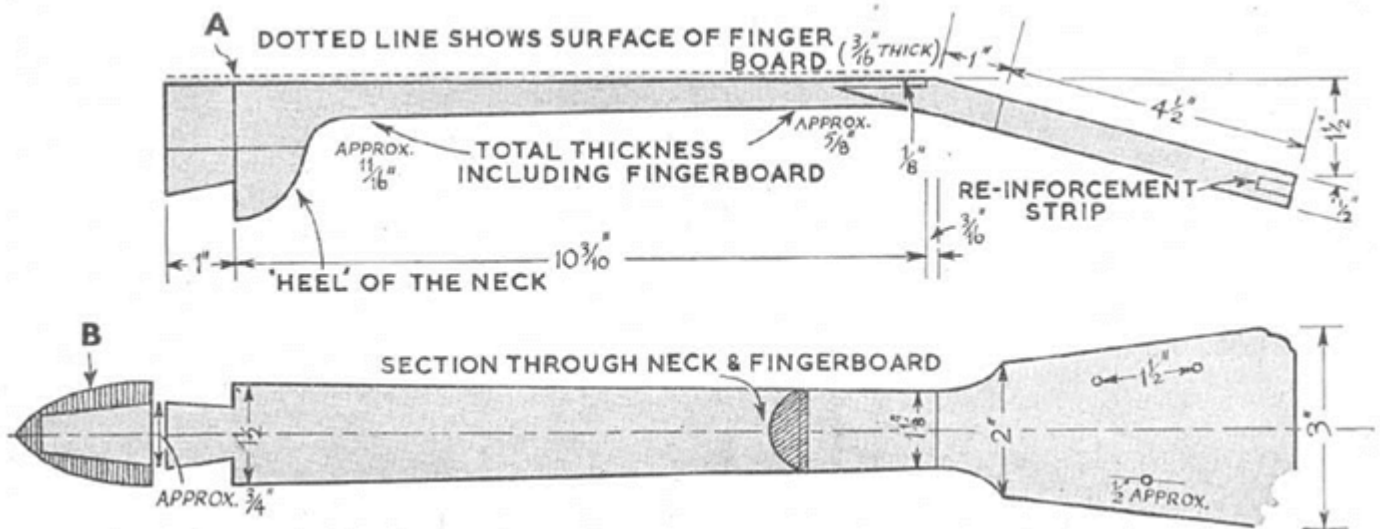

Fig. 2. SIDE ELEVATION AND PLAN OF NECK AND FINGERBOARD. Note reinforcement strip.
Describing the various materials required, in Part I, I referred to my preference for necks to be constructed of solid rosewood and Fig. 2 shows the method when using this or similar strong woods. With your material still in “the square” cut the vee-joint and glue the head piece and neck together with the glue already specified. Then, at the opposite end, glue on the underside of the neck sufficient of the same material to make up the depth of the “heel” to coincide with the shape of your sound-chamber, bearing in mind that the thickness of the sound-board, which will be flush with the neck face, must be allowed for. At this end of the neck it is a good idea to leave a few inches of spare stuff to put in the vice during shaping operations.
The “heel” end of the neck is still in block form and you must now make a right-angled cut with a fine saw on each side of the neck at the line (A), Fig. 2. Then shape the heel as shown in side elevation and section (A) and (B), Fig. 2, being governed by the body shape at the shoulder block. As the right-angle cut of the neck will be modified slightly to offset the neck-face from the sound-board, final shaping of the heel cannot be done at this stage. The lines of the heel and the curving junction of head and neck should be delicately rounded to flow into the lines of the neck as shown in section, but it is essential that the neck itself is not shaped until after the finger-board has been fitted.
Fig. 1 (C) illustrates how a laminated type of neck is made with a strong centre core of the hardwoods already mentioned. Although the gluing operation in this method is simple you will have considerable work with, first of all, the bow-saw and later the rasp, or spoke-shave. A well laminated neck gives the necessary strength, and the strip of dark-coloured wood provides a pleasant stripe along the neck. If materials do not permit otherwise you may laminate the neck only, and join on a solid head as shown in Fig. 2, but when the laminate runs throughout, the head should be faced with about 2 mm. or so of suitable hardwood for appearance and lateral stability.